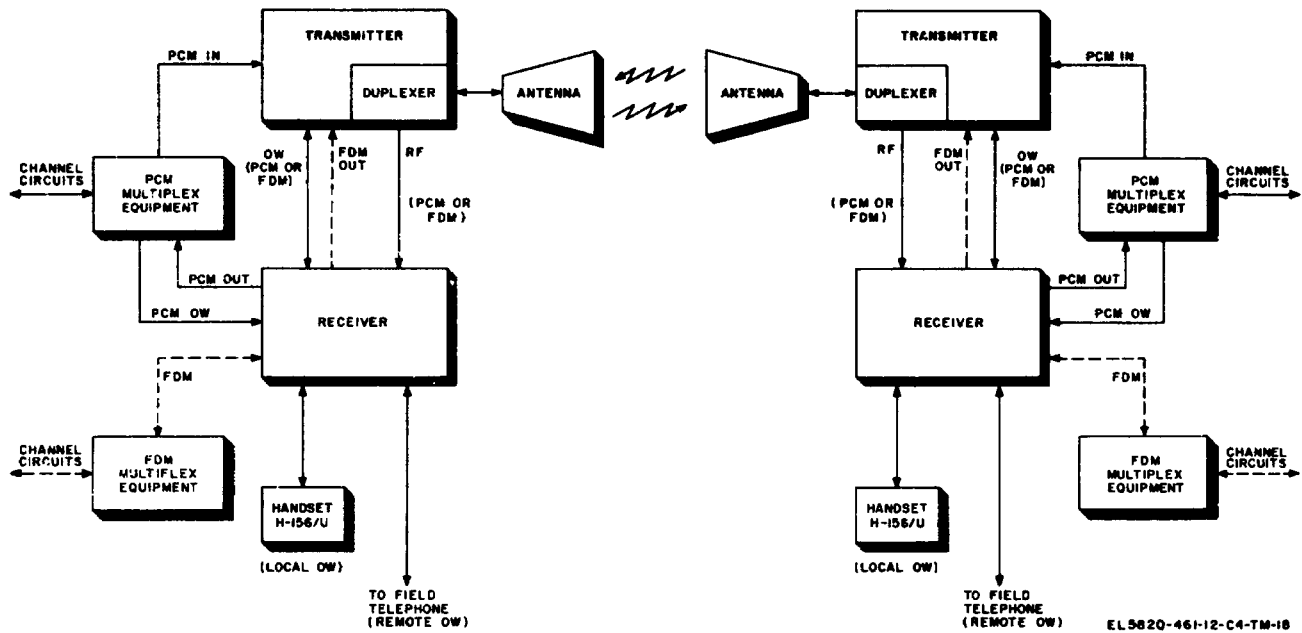

Figure 1-15. System Application using two terminals
The radio set is designed specifically for system use and generally is not used without supporting multiplex equipment. When the radio set is used in a communications system where the radio link exceeds 30 miles (approximately 50 kilometers), a repeater station is required at each 30-mile interval. In addition to multiplex equipment, each repeater station is equipped with two complete radio sets, to allow simultaneous transmission and reception in two directions. As many as seven repeater stations may be used in a system. The signal paths for various configurations are covered in paragraphs 1-16 and 1-17. Throughout this discussion and accompanying illustrations (figs. 1-15 and 6-1), the equipment that comprises the transmitting portion of the radio set (T-8993(P)/GRC, PP-2054(\*)/GRC, and the AM-1957/GRC or AM-1958(\*)/GRC) is referred to as the transmitter; the combination of the R-1148(P)/GRC or R-1331(\*)/GRC and the AM-1955(\*)/GRC or AM-1956(\*)/GRC is referred to as the receiver.
#### 1-16. Two-Terminal System (fig. 1-15)
a. *General.* Multiplex intelligence can be transmitted direct from one radio set terminal station to another at distances up to 30 miles (50 kilometers, approximately). The signal paths through this type of system are shown in figure 1-15 and are covered in b through d below.
(1) Multiplex signals (FDM) from *fdm* equipment are fed through the receiver to the transmitter (FDM OUT).
(2) The RF carrier of the transmitter, frequency-modulated by the multiplex signals, is coupled through the duplexer to the antenna for propagation towards the distant station.
(3) The signals received by the antenna at the distant station are fed through a duplexer in the transmitter to the receiver (RF). From the receiver, the signals (FDM) are routed to the *fdm* equipment.